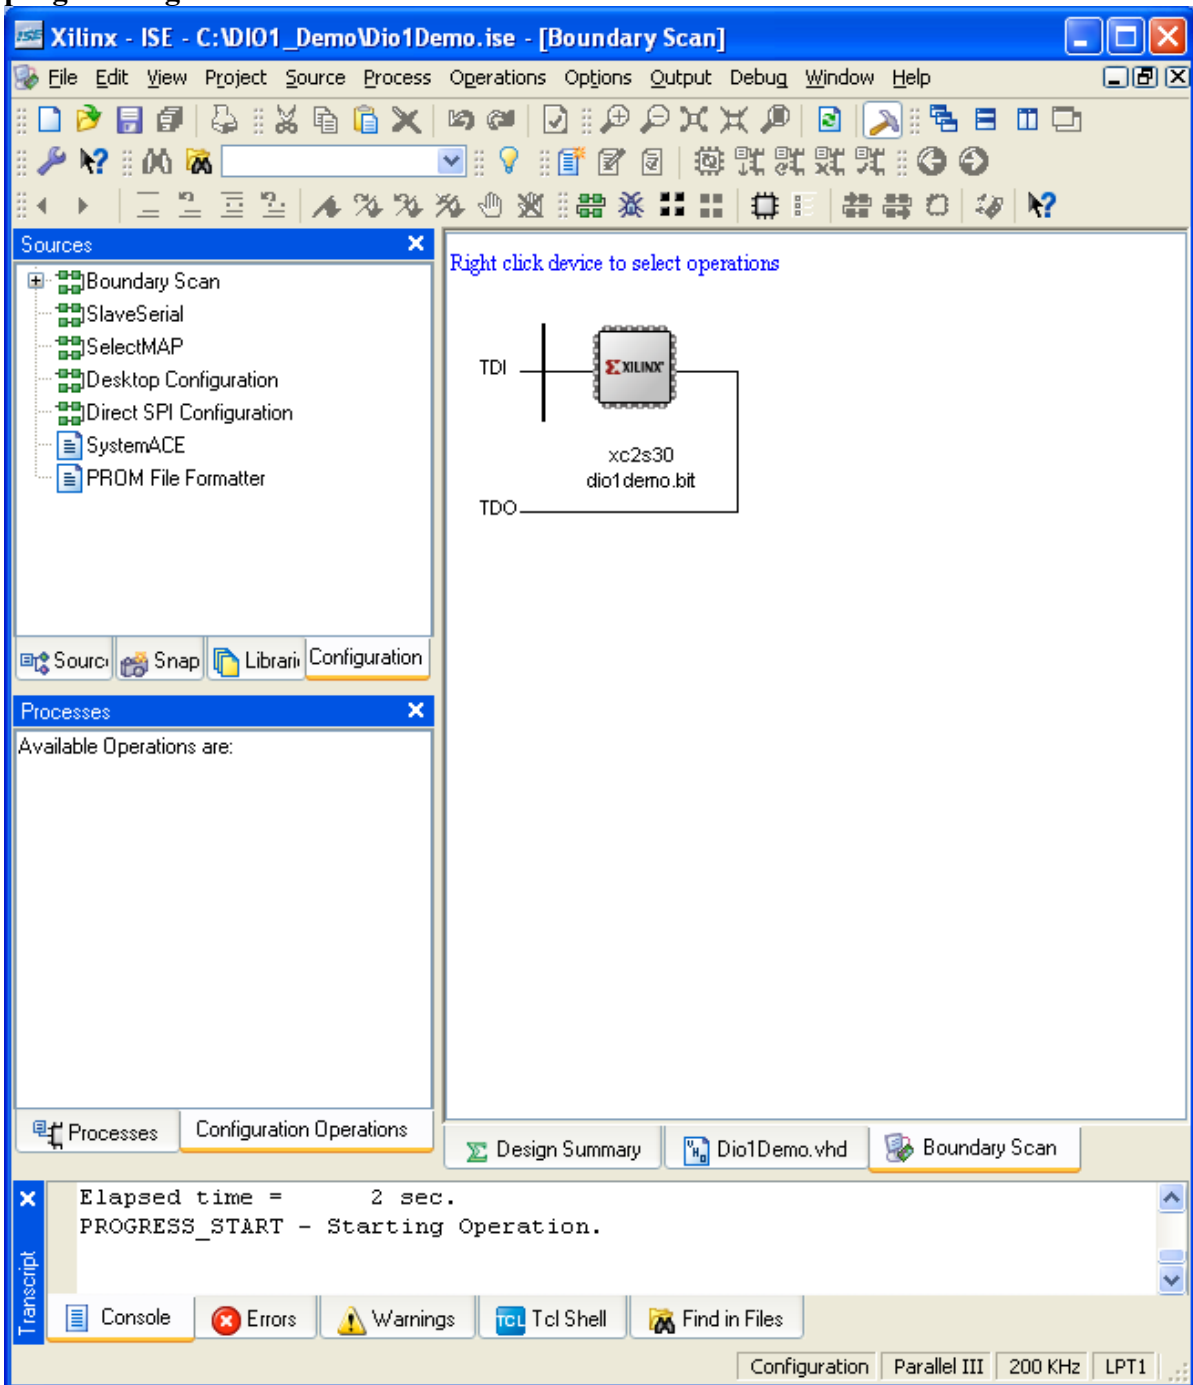

Figure 4: Programming page
*If you are prompted to do so, choose the Configure devices using Boundary Scan bullet and select “Automatically connect a cable and identify a Boundary Scan chain”. You will then be asked to assign a new configuration file, choose “dio1demo.bit” [in other instances in the following experiments where you will create your own programs, choose the new \*.bit file created by you to initiate the device]. If all goes well you should wind up with a page such as shown in Figure 4.*